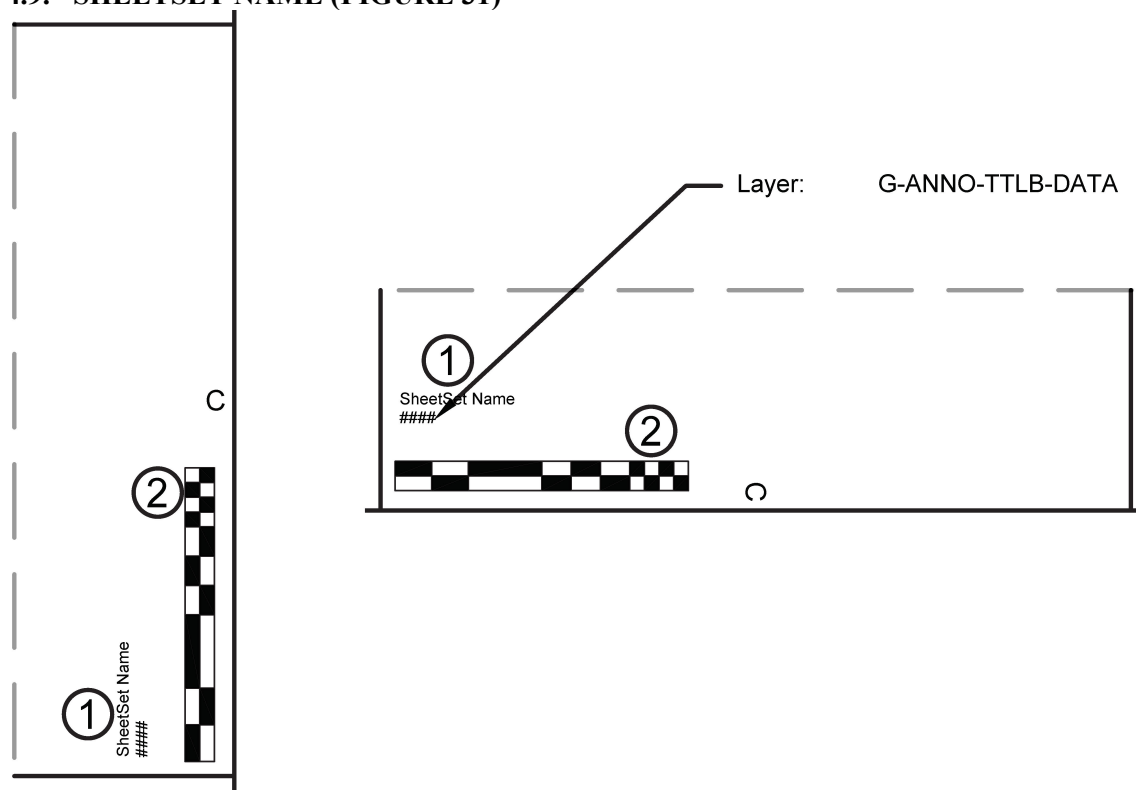

Figure 31-USIBWC Border: AutoCAD SheetSet Name.
4.9. SHEETSET NAME (FIGURE 31)
4.9.A. Figure 31, Item 1 - AutoCAD SheetSet Name
4.9.B. Figure 31, Item 2 - Scale
4.10.A. Figure 31, Item 1 - Paper Size
4.10.B. Figure 31, Item 2 - Plot Device
4.10.C. Figure 31, Item 3 - Plot Style Table Name
4.10.D. Figure 31, Item 4 - Plot Scale